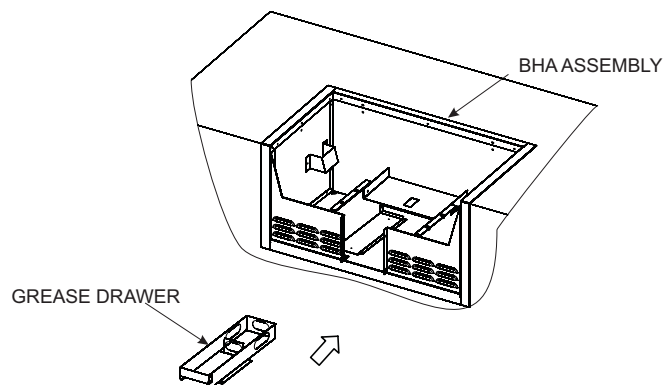

Figure 3
3. Place the grease drawer into BHAX2 surround by sliding it under the bracket. See Figure 3.